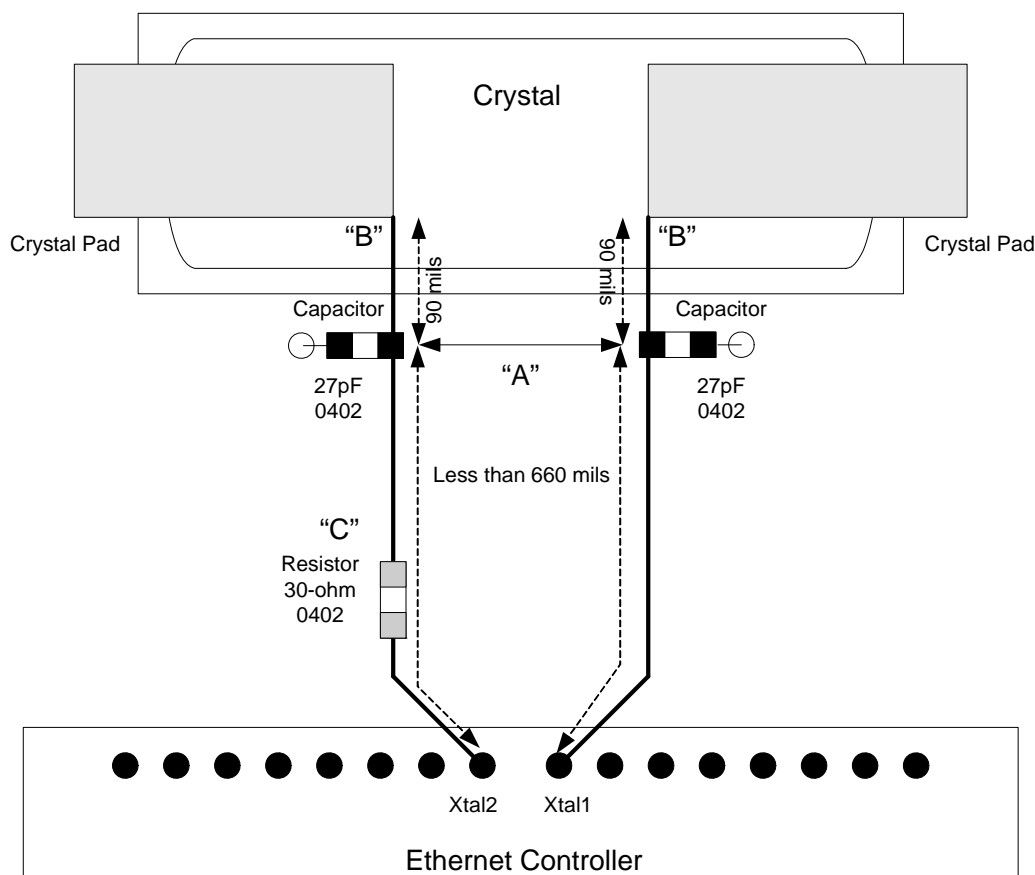

Figure 8. Recommended Crystal Placement and Layout
- Place load capacitor solder pad directly in line with circuit trace (see Figure 8, point A).
- Place a 30-ohm (5% tolerance) 0402 series resistor on Xtal2. (see Figure 8, point C). The placement of the resistor along the Xtal trace is flexible, as long as it is between the controller and load capacitor.
- Route Xtal1 and Xtal2 traces to nearest inside corners of crystal pad (see Figure 8, point B).